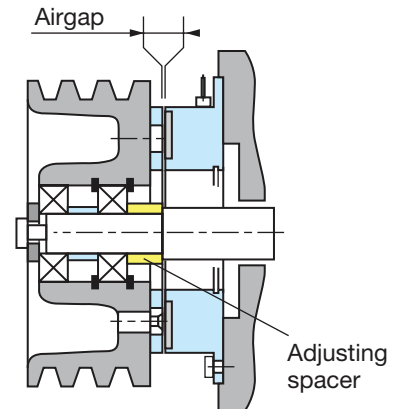
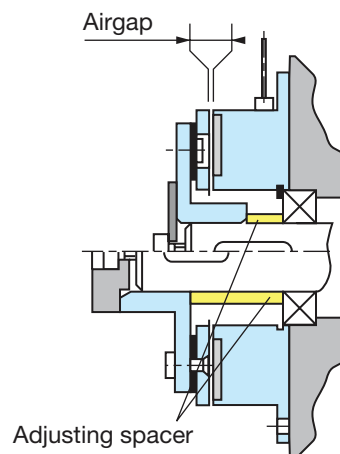

Fig. 5
Fig. 6
The inductor (104) should be rigidly fixed to the frame of the machine, centred by the collar (see figure 5) or directly centred on a bearing forming a support (see figure 6). In this case, a circlip fitted in the groove provided for the purpose holds it central to the bearing.